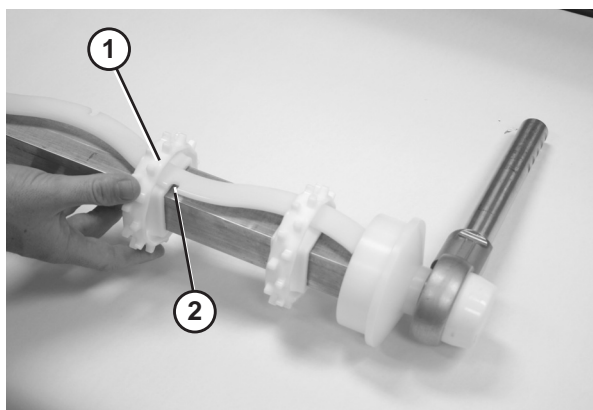

Figure 75
4. Install the remaining sprockets (**Figure 75, item 1**) making sure to position each sprocket with the next available notch (**Figure 75, item 2**) in the sprocket alignment bar.